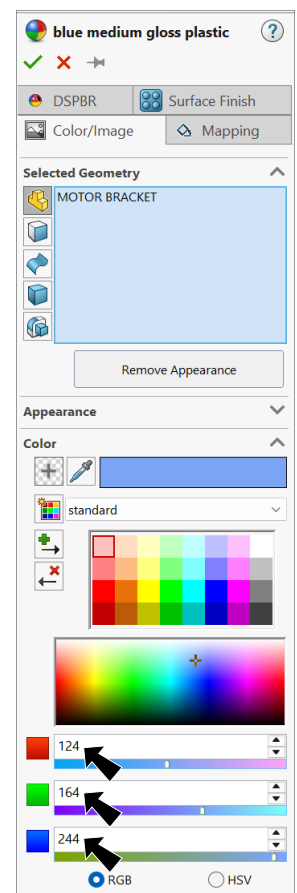

Fig. 77
Step 4. Over in Appearances Property Manager, under Color, Fig. 77 set RGB values